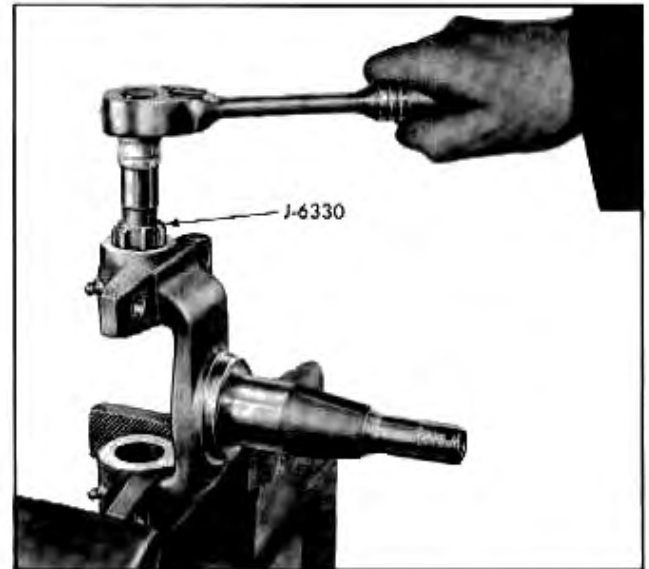

Fig. 3-24 Reaming Steering Knuckle with Reamer J-6330
1. Use Welch Plug Reamer J-6330 (Fig. 3-24) for cleaning up recesses in steering knuckle where metal was upset over expansion plug.